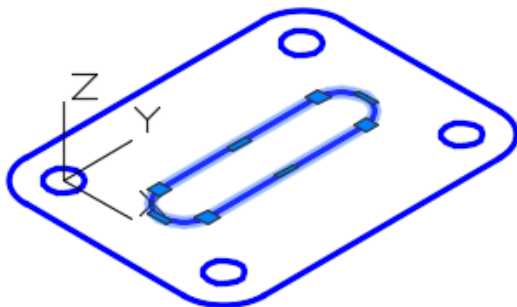

Figure Step 10
Step 10 Using what you learned in the last two steps join the inside 4 lines and arcs to create on 2D polyline. Check to ensure it is closed using the Properties window. (Figure Step 10)